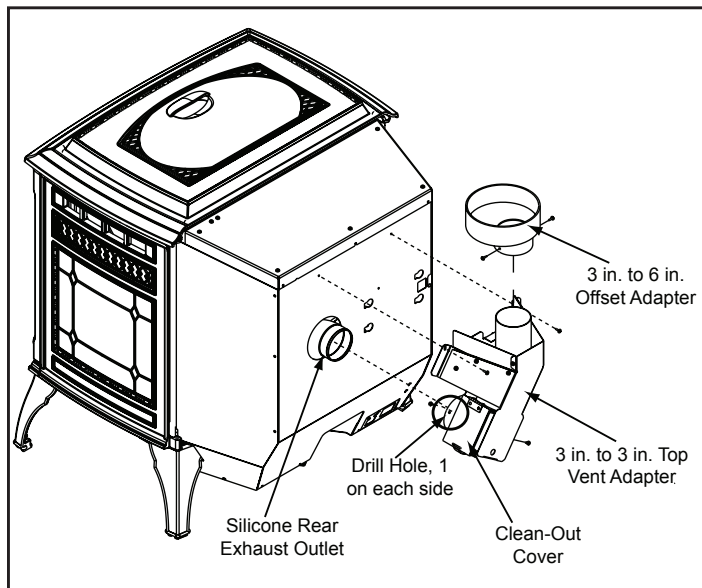

Figure 22.1
1. Put a layer of high temperature silicone on the 3 inch (76mm) exhaust outlet. **Do not put silicone inside of pipe (Figure 22.1).**
2. Slide the top vent adapter onto the rear exhaust outlet and adjust the assembly to a vertical position until the top of the flue outlet is centered and is in a level position (Figure 22.1).